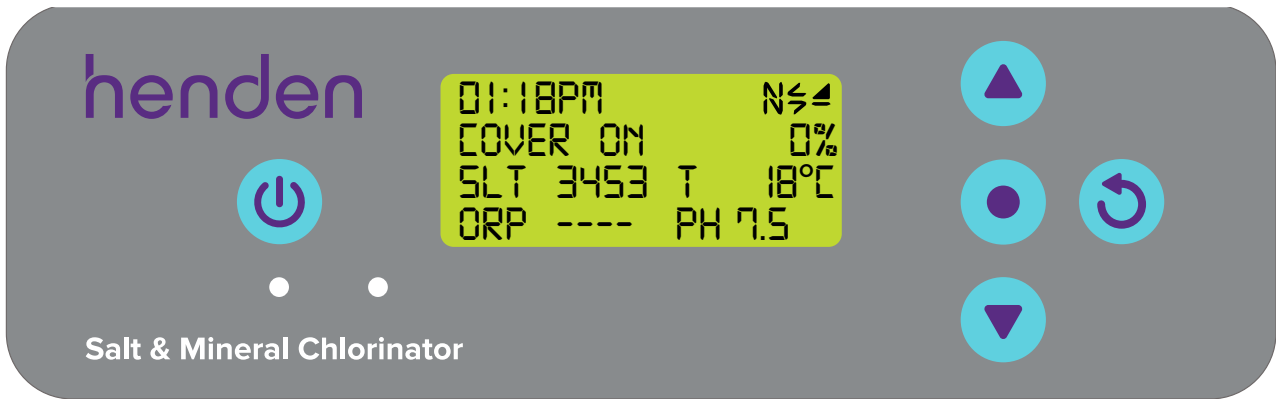

Figure 9.77
- Once back at the **HOME SCREEN** the display will toggle to show SPA ON (refer Figure 9.77).